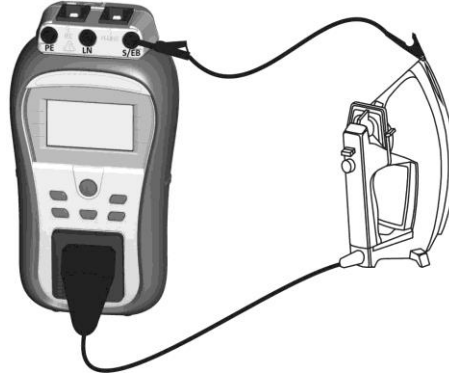
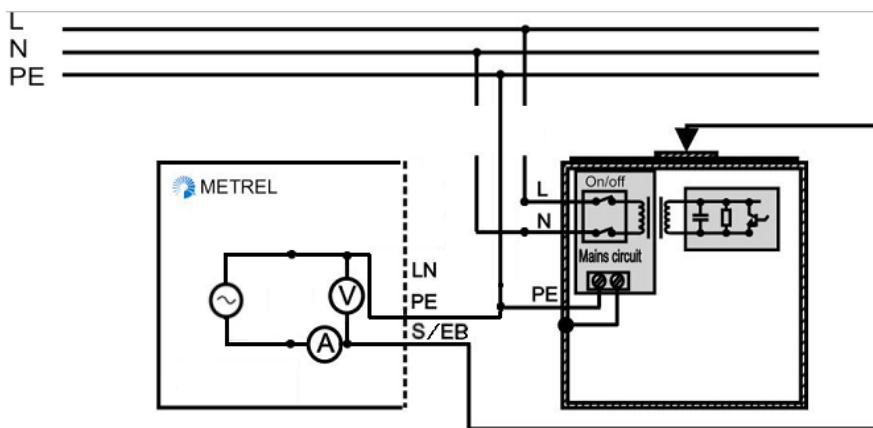

Figure 5.5: Measurement of Earth continuity
Figure 5.6: Measurement of Earth continuity of fixed installed DUTs of Class I
- ▶ Connect device under test to the instrument (see **Figure 5.5** and **Figure 5.6**).